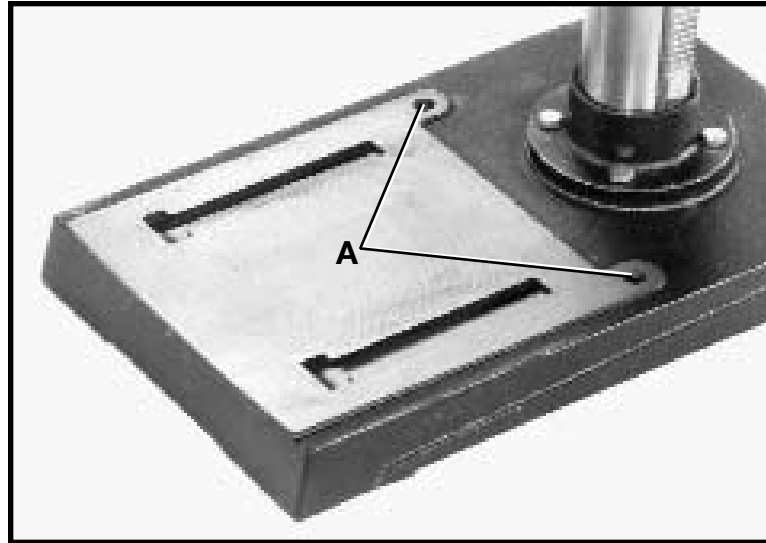
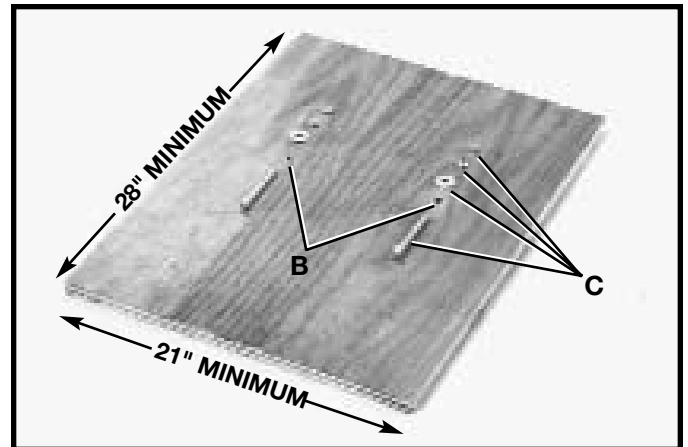

Fig. 10
Fig. 11
If your drill press is to be used in one permanent location, the drill press base must be secured to the supporting surface with fasteners through the two mounting holes, (A) Fig. 10, in the drill press base.
1. Drill two 3/8" diameter holes (B) Fig. 11, corresponding to the mounting holes (A) Fig. 10, of the drill press base in a 21" by 28" minimum size plywood board.
2. Fasten the drill press base to the mounting board using the carriage bolts, flat washers, lockwashers, and hex nuts (C) Fig. 11, furnished with your drill press. The holes for the carriage bolt heads must be countersunk so that the bolt heads are flush with the bottom surface of the mounting board in order to guarantee proper stability.